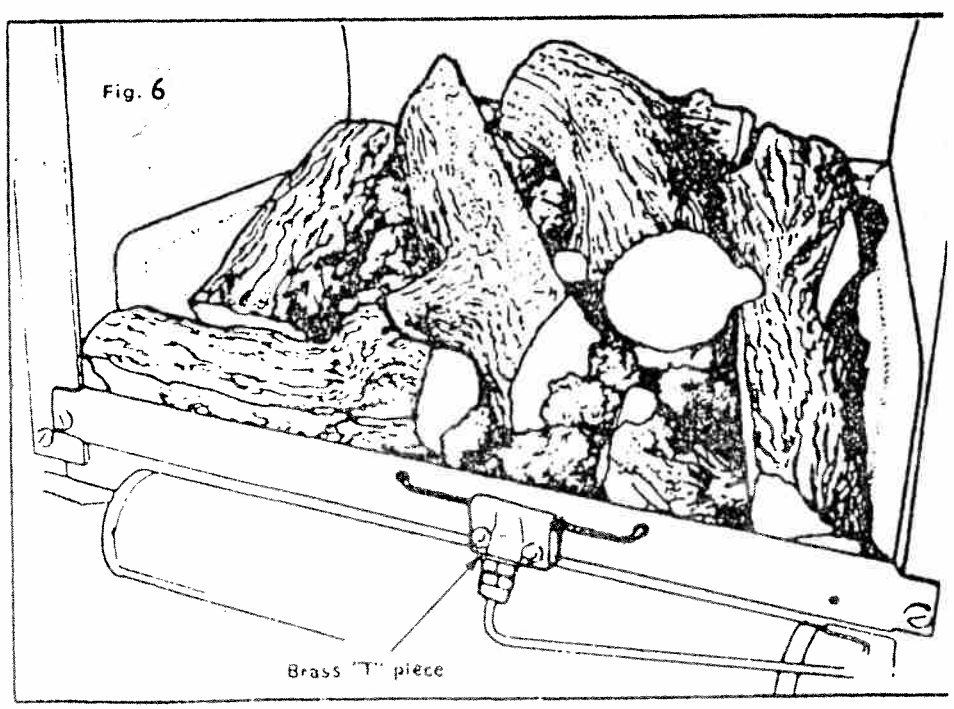

Fig. 6
- (6) Remove log No. 6 and evenly fill in the spaces between the remaining logs with a SINGLE LAYER of the ceramic coke supplied. Replace log No. 6.
- (7) For visual appearance of completed log bed (see Fig. 6).
- (v) Undo flame burner pipe from brass block 'T' piece located centrally (Fig. 6)